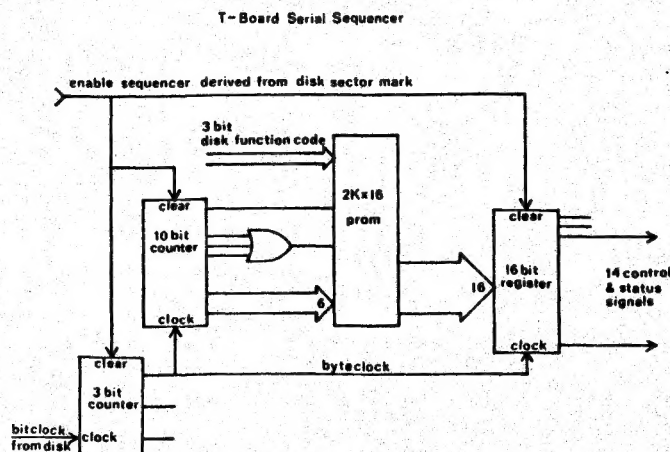

Figure 3-5
- the Serial Sequencer (figure 3-5).